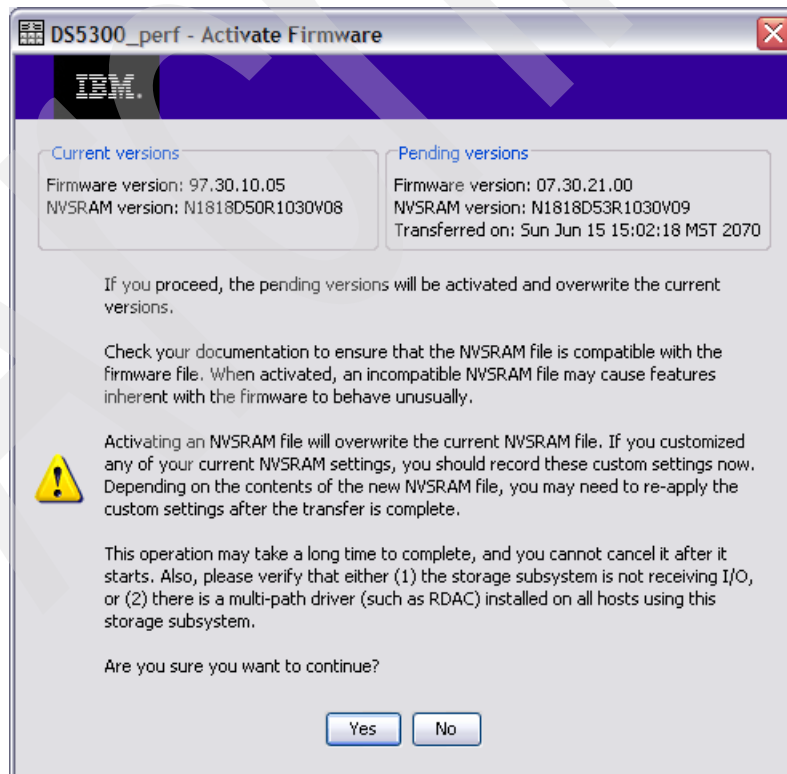

Figure 7-10 Activation firmware confirmation
- The Activate Firmware window opens and asks you for confirmation to continue, as shown in Figure 7-10. Click **Yes**.